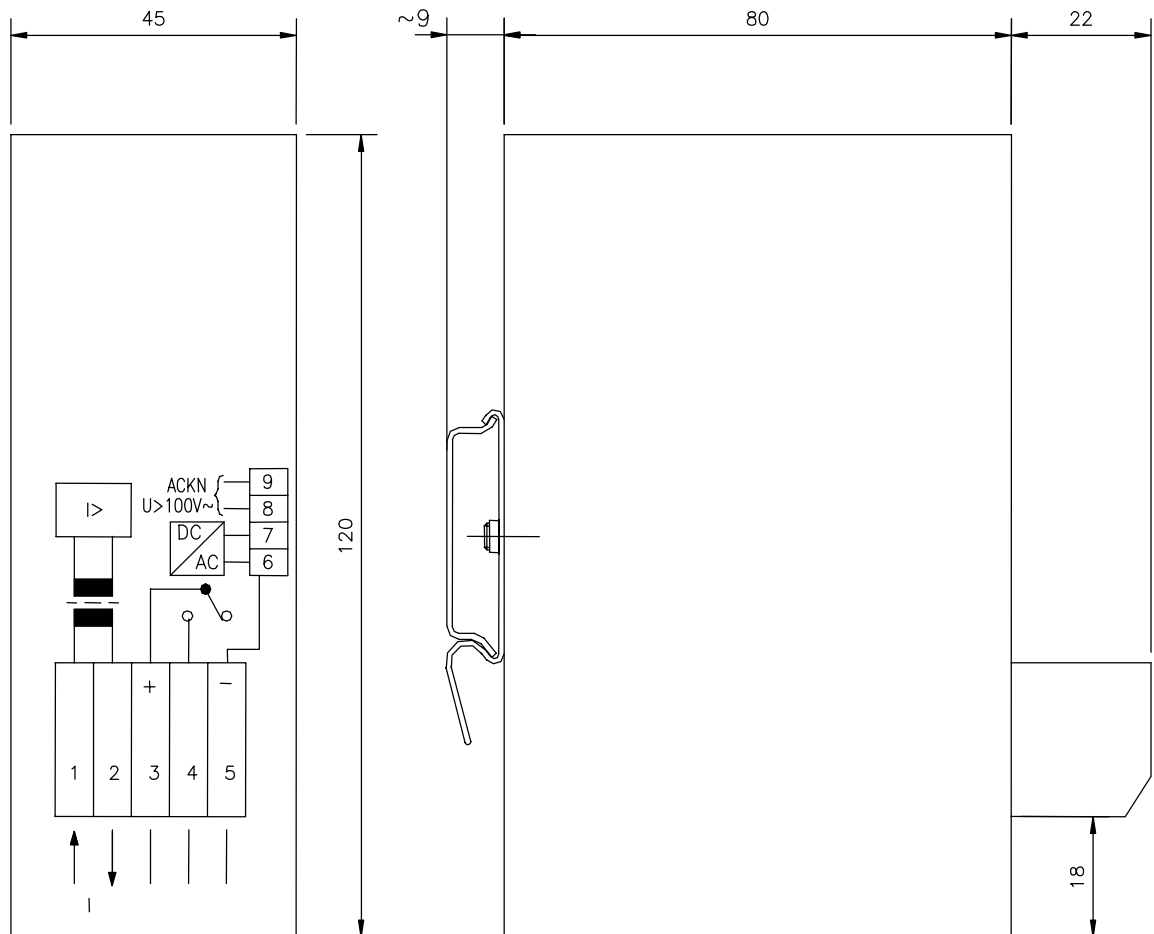

Fig.1 Front view and side view of the EI overcurrent relay
- The size of the casing is small: width: 45 mm, height: 120 mm, depth 111 mm (with the rail of the terminals, see Fig.1).
The EI type static overcurrent protection device is housed in a closed steel case; it is constructed of module system elements, containing electronic circuits. The front view and the side view of the housing are shown on Fig. 1.